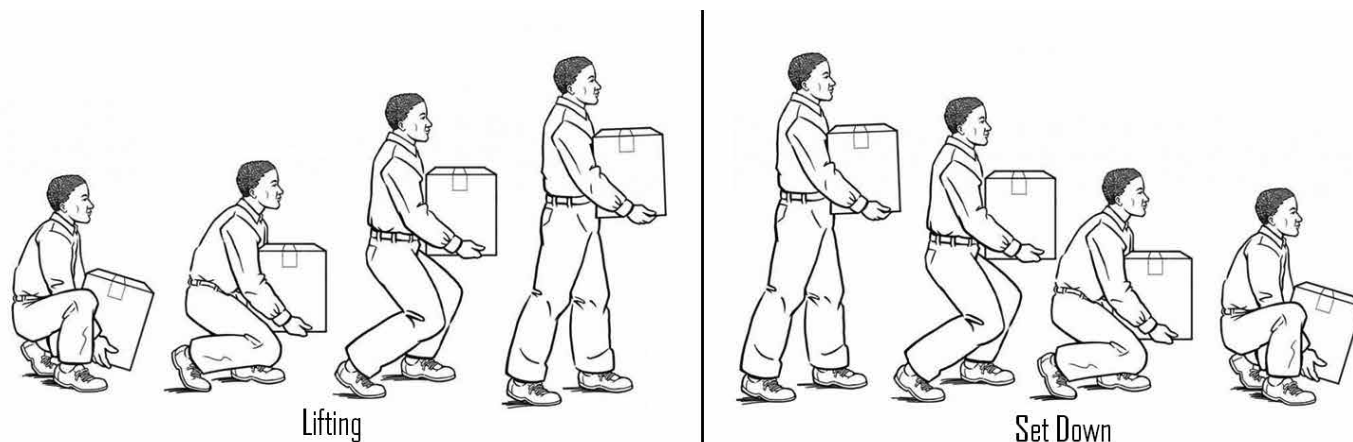

Figure 1
- When lifting and carrying always keep the pump close to your body. (See Figure 1)
- When starting the lift bend your knees and keep your back straight. (See Figure 1) Tightening the stomach muscles will help keep your back straight.
- During the lift use your legs to do the work never use you back and make sure your legs are at least shoulder width apart. (See Figure 1)
- **Pulley Driven** - Mount pulleys as close to pump and motor engine shaft bearings as possible. Check alignment with a straight edge as shown in Fig. 1.